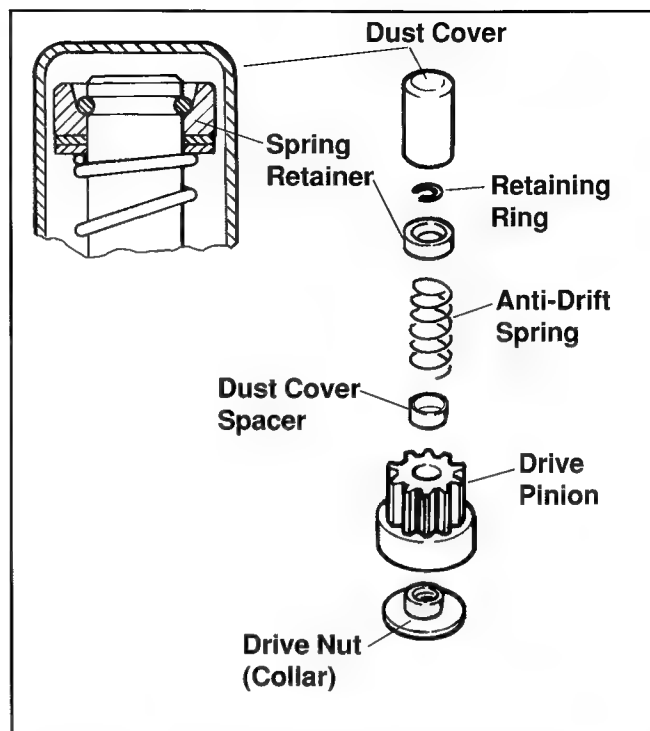

Figure 8-11. Drive Components, UTE “Bonded” Inertia Drive Starter.
1. The rubber dust cover has a molded lip on the inside that snaps into a groove in the dust cover spacer (See Figure 8-11). Turn the drive pinion clockwise until it reaches the fully extended position. While holding it in the extended position, grasp the tip of the dust cover with a pliers or vise grip and pull it free from the spacer.
3. Again referring to Figure 8-11, grasp the spring retainer and push it toward the starter, compressing the anti-drift spring and exposing the retaining ring.